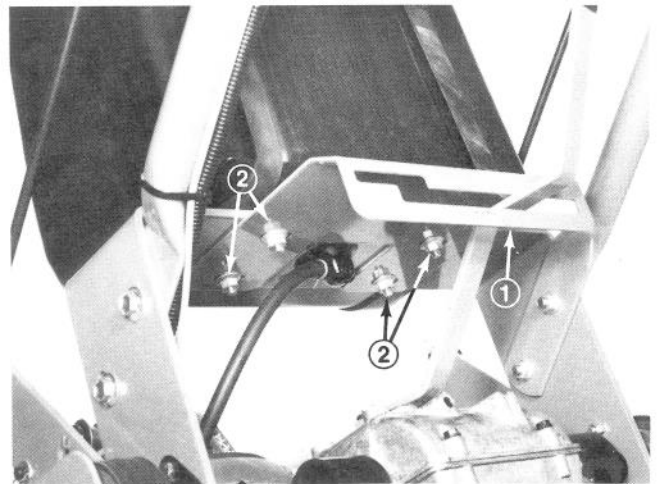

Figure 21
1. Loosen four locknuts securing control panel to rear frame (Fig. 21).